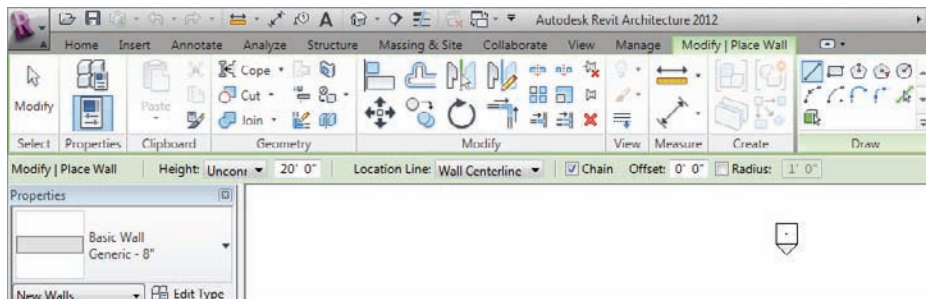

FIGURE 1.7 The Options bar replaces the command prompt from AutoCAD. MicroStation users will be more familiar with this method.
2. After you click the Wall button, notice that Revit adds an additional tab to the Ribbon, with options specific to the command you're running, as shown in Figure 1.7. This tab allows you to make different choices based on the placement of a wall. You may also notice that Revit places an additional Options bar below the Ribbon for more choices.